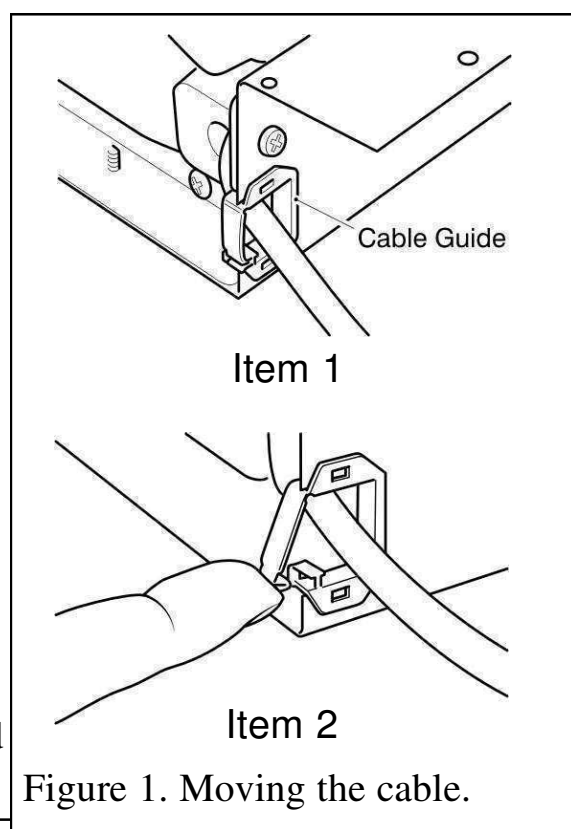

Figure 1. Moving the cable.
1. To open the cable guides push and lift the tab on the bottom of them and the cable guides will open (See figure 1- Item 2).